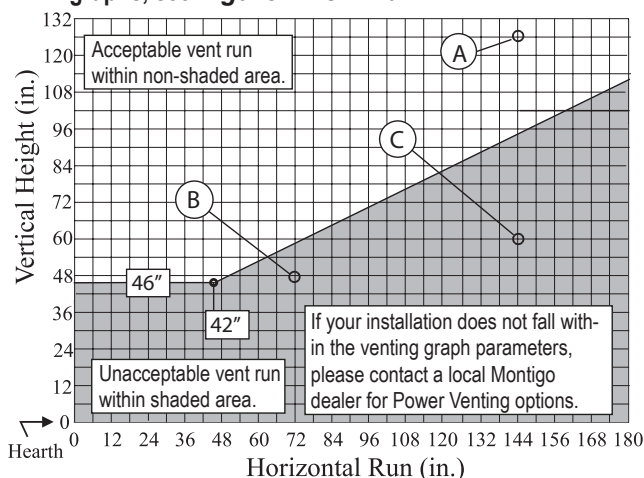

Figure 12. H38PR\* or HL38PR\* Top Vent Venting Graph for wall mounted terminations.
- Once the proposed venting layout has been determined refer to either Figure 12, 12a, 14, or 14a to ensure the layout is acceptable.
- Venting runs *must* fall within the limits set by the venting graphs, see Figure 12 or 12a.
Measure the vertical height from the fireplace hearth to the centre of the termination and the horizontal run from the fireplace flue collar to the wall flange of the termination. Plot on the Venting Graph Figure 12 or 12a with an 'X'.
Figure 12a. H38PR\* or HL38PR\* Top Vented, wall mounted installation with one 90° bend. The vent run must comply with Venting Graph for Top vent, wall mounted terminations, Figure 12.
Figure 13b. H38PR\*, HL38PR\*, or HP3PR\* Top Vented, wall mounted Multi-elbow installation. See Venting Graph for Top vent, wall mounted terminations, Figure 12 or 12a.
Figure 13c. H38PR\*, HL38PR\* or HP38PR\* Top Vented, wall mounted Retracted Multi-elbow installation. See Venting Graph for Top vent, wall mounted terminations, Figure 12 or 12a.